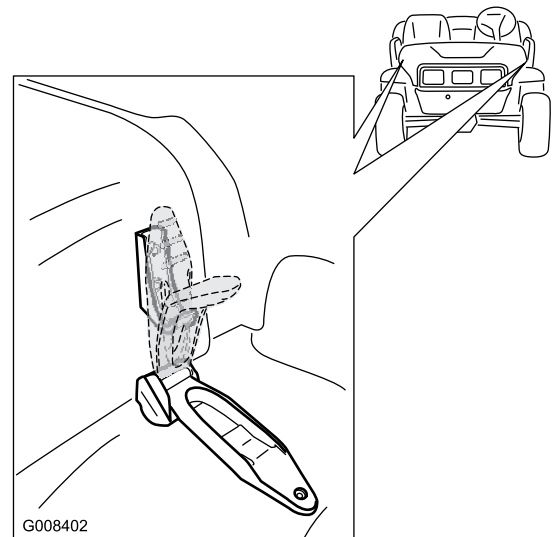

Figure 25
1. Lift up the handle of the rubber latches at each side of the hood (Figure 25).
2. Secure the hood by aligning the rubber latches onto the latch anchors at each side of the hood (Figure 25).